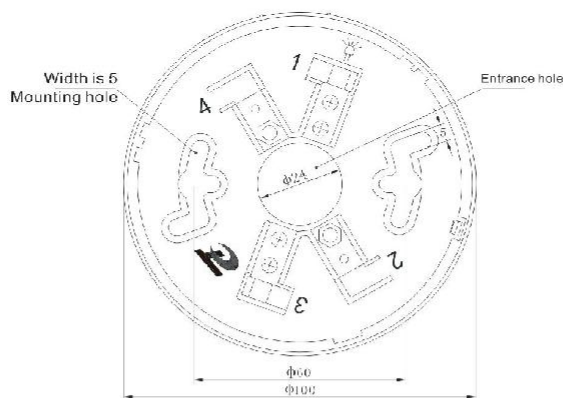

Fig. 3
3. Base of the detector is shown in Fig. 3. Fix the base with two tapping screws, and then connect loop to terminals (polarity-insensitive). After the base is fixed firmly, rotate the bottom of detector and base clockwise, and then the detector will be fitted to the base.